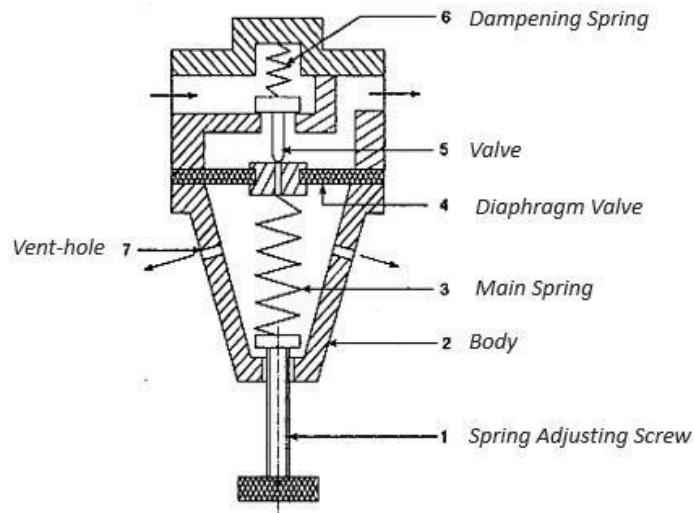

Fig.4.16 Pressure Regulator
- ▶ *Fig.4.16* shows the internal construction of a pressure regulator in a pneumatic system. The main function of this valve is to regulate the incoming pressure to the system so that the desired air pressure is capable of flowing at a steady condition.